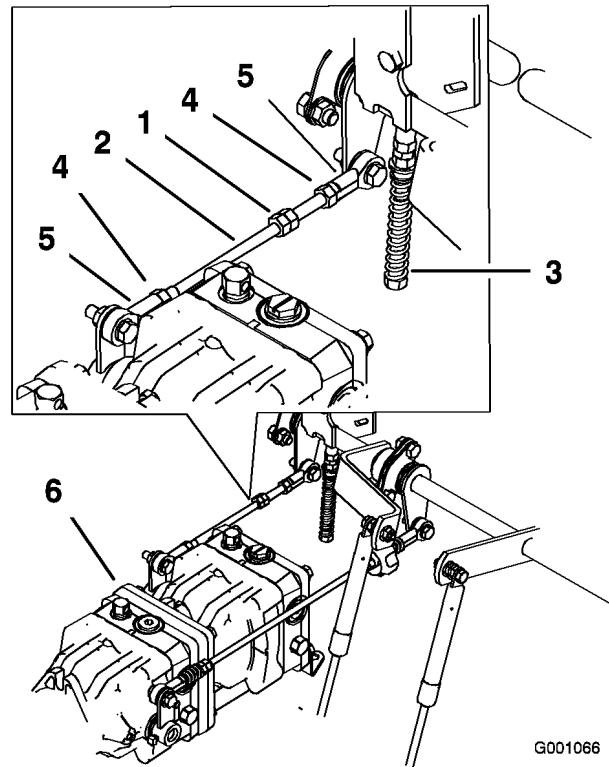

Figure 71
6. Tighten the locknuts at the ball joints (Figure 71).
1. Loosen the locknuts at the ball joints on the pump control rod (Figure 71).
3. Adjust the pump rod length by rotating double nuts on rod, in the appropriate direction, until wheel is still or slightly creeps in reverse (Figure 71).